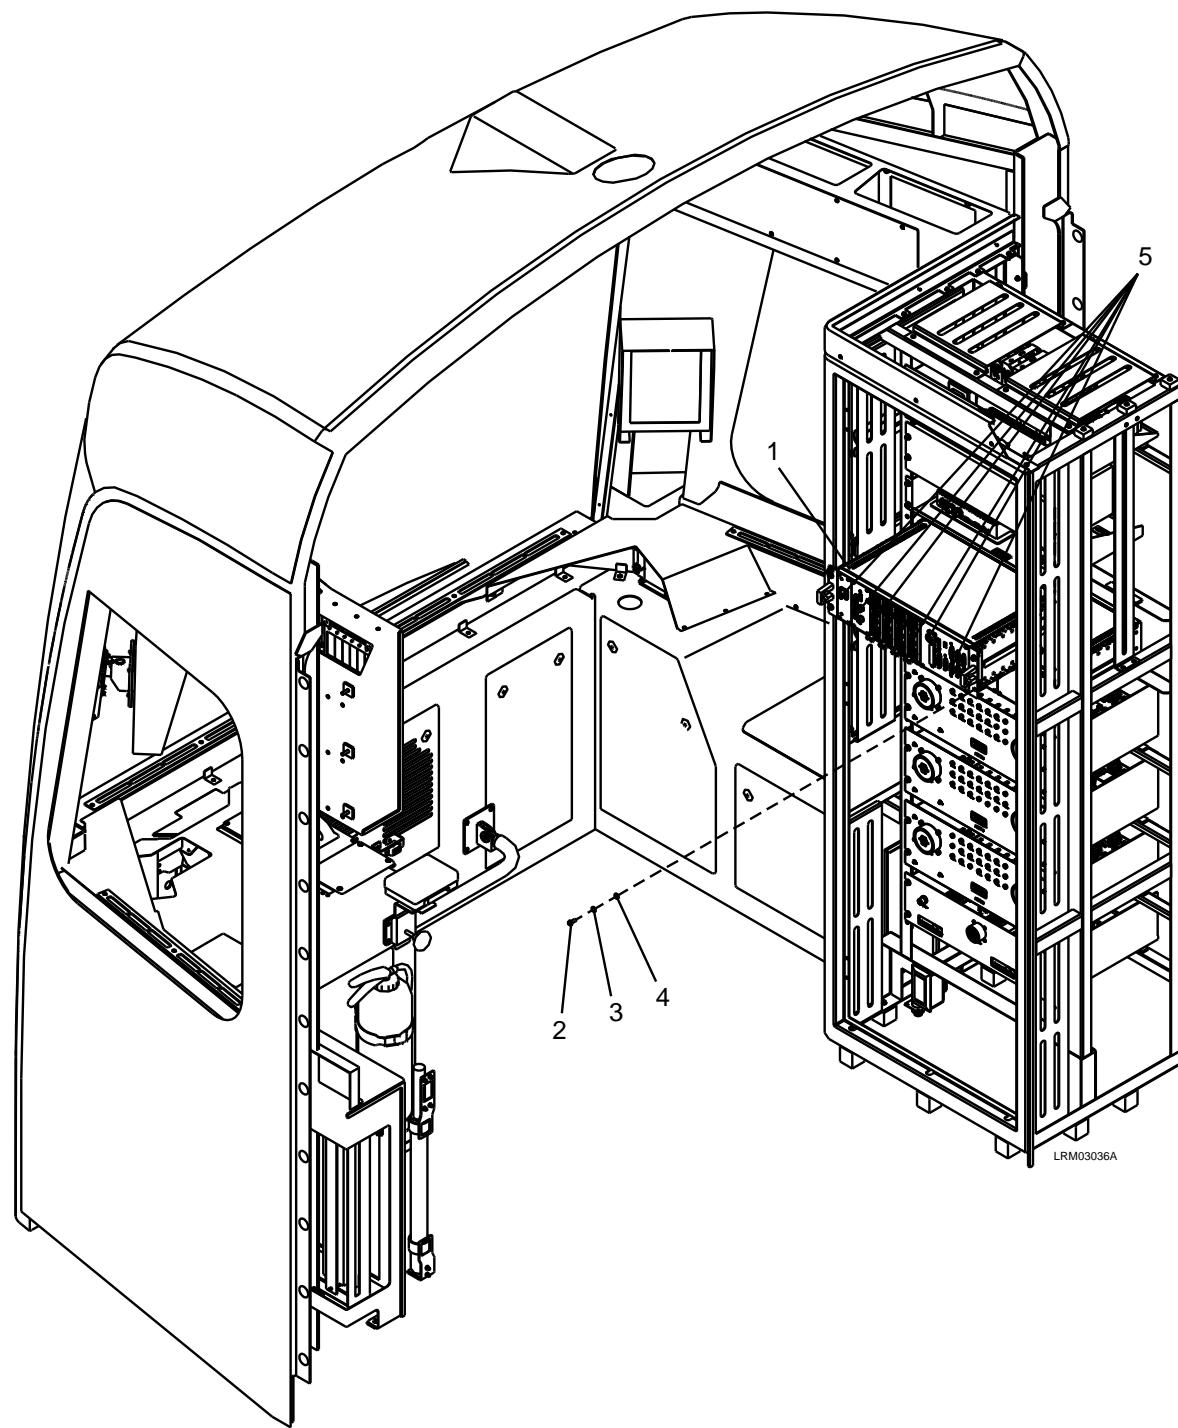

Figure 7-30: TCN Controller (A-Unit)
2. Disconnect the electrical connectors (5) to the TCN Controller (A-Unit) (1). See Figure 7-30.
3. Remove the four M6 x 16 screws (2), M6 lock washers (3), and M6 plain washers (4).
4. Carefully remove the TCN Controller (A Unit) (1).